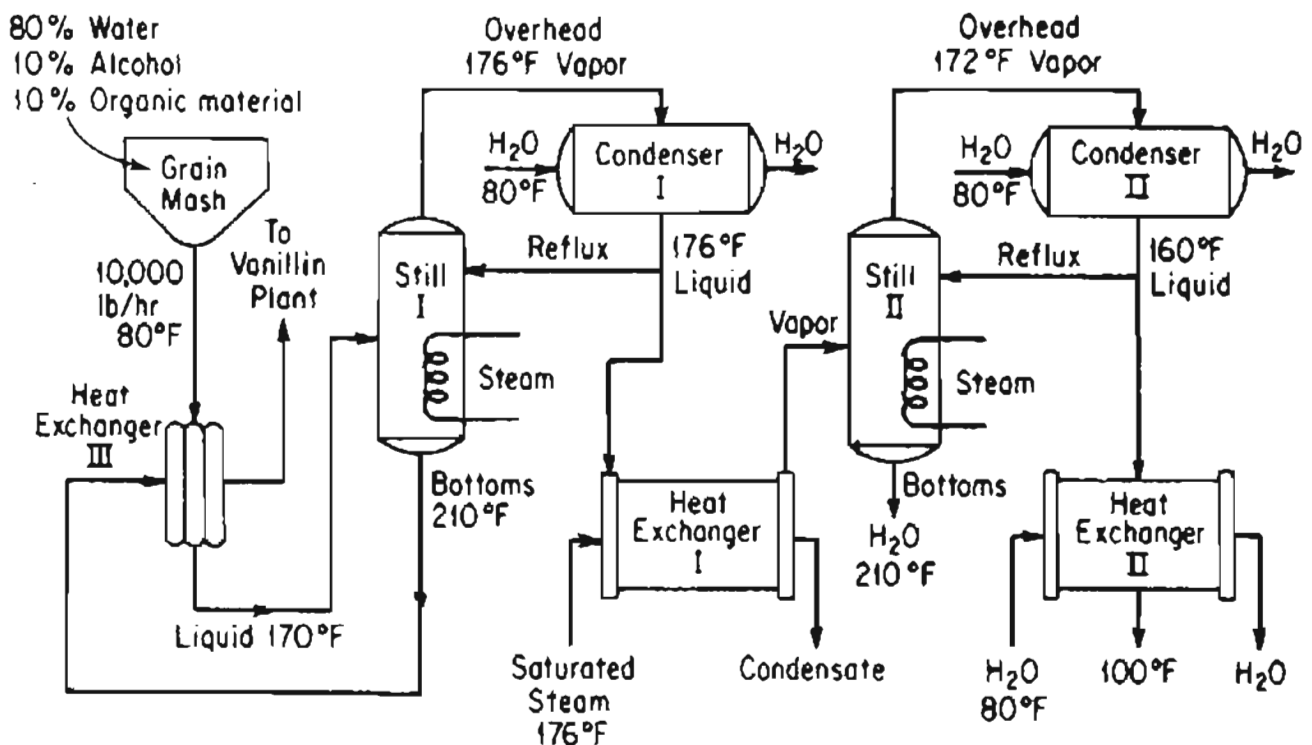

Figure P31.7
- 31.7** The Blue Ribbon Sour Mash Company plans to make commercial alcohol by a process shown in Figure P31.7. Grain mash is fed through a heat exchanger where it is heated to 170°F. The alcohol is removed as 60% by weight alcohol from the first